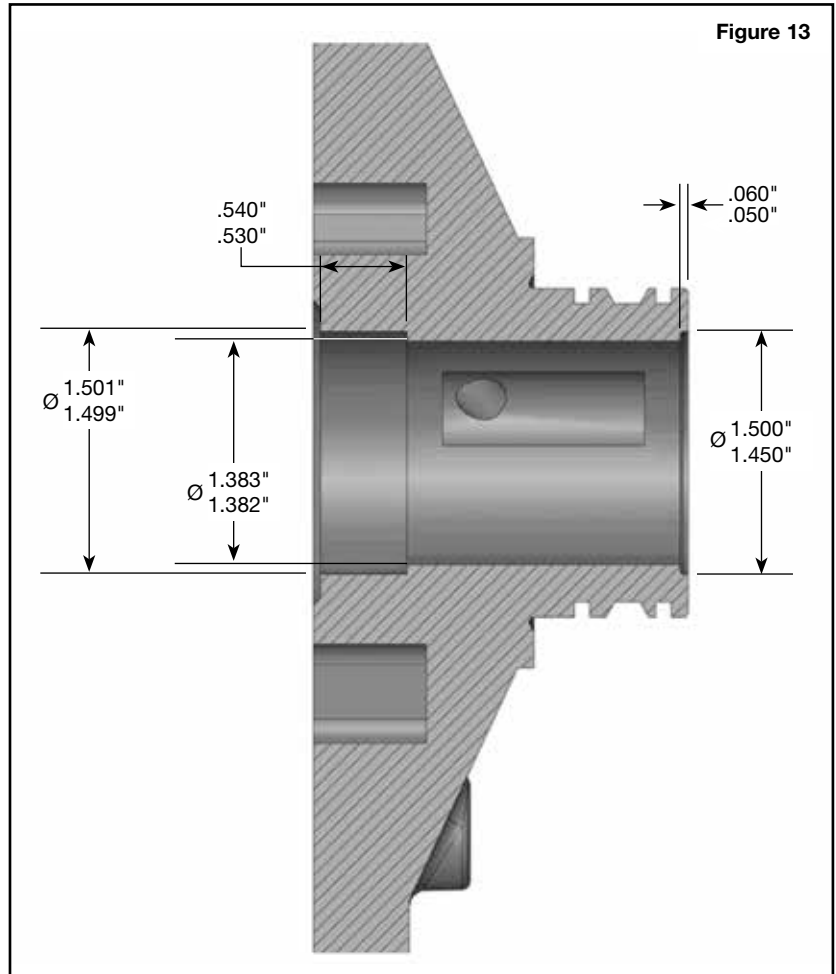

Figure 13
- Machine pump cover per dimensions (Figure 13).
f. The stator tube may protrude past the end of the pump cover. If so, trim to match the  $\text{Ø}1.450/1.500$ " undercut from step 1 (Figure 13).